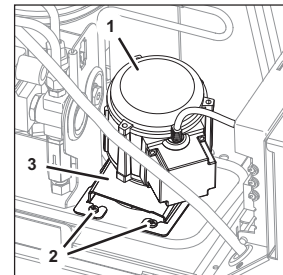

Fig. 62
2. Remove the fastening bolts (Fig. 62/2) from the agitator motor mount (Fig. 62/3).
3. Lift the agitator motor mount (Fig. 62/3) with agitator motor (Fig. 62/1) out of the unit.
9. Position the agitator motor (Fig. 62/1) in the unit together with the agitator motor mount (Fig. 62/3).
10. Attach the agitator motor mount (Fig. 62/3) within the unit with the fastening bolts (Fig. 62/2).